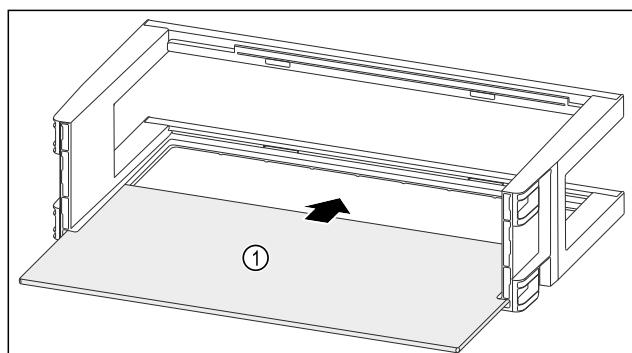

Fig. 125
- ▶ Push the shelf Fig. 125 (1) into the side recesses.